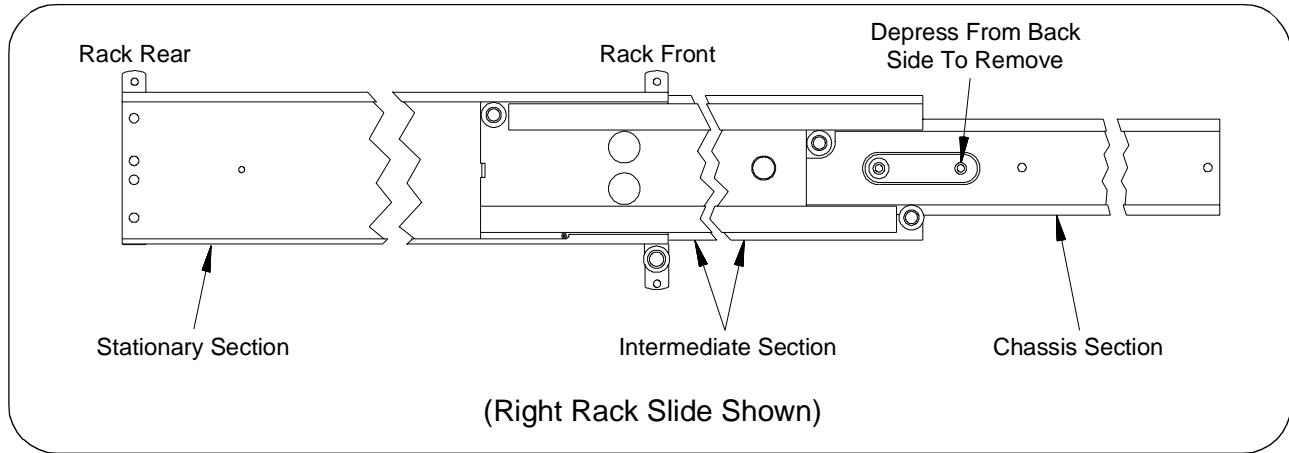

Figure 8 . Removing the Rack Slide Chassis Section from the Intermediate Section.
- Remove the rack slide chassis section from the intermediate section (Figure 8). (The chassis section will be connected to the mainframe in Step 7.) Slide the intermediate section back into the stationary section.